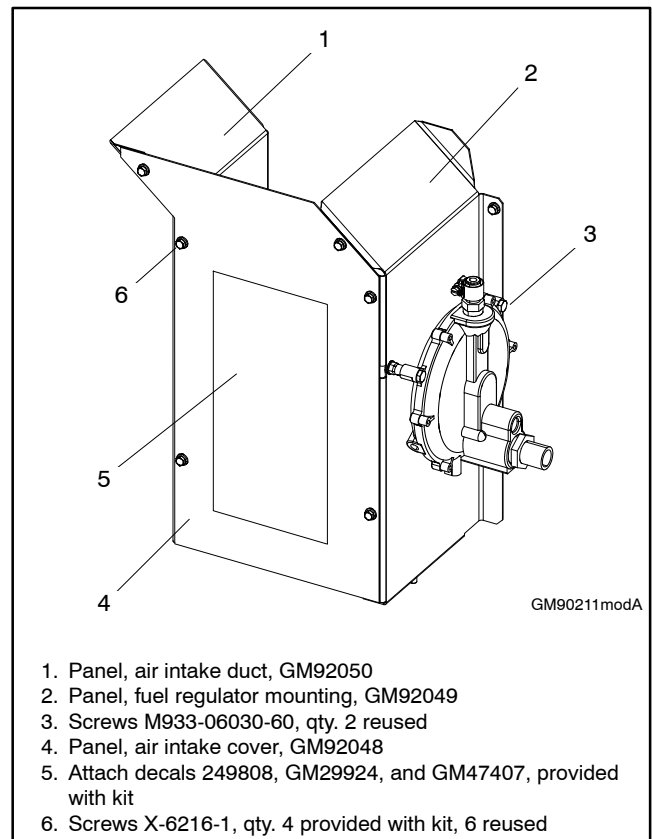

Figure 4 Air Intake Duct Assembly
- a. Use three screws (X-6216-1) to attach cover panel GM92048 to fuel regulator mounting panel GM92049. See Figure 4.